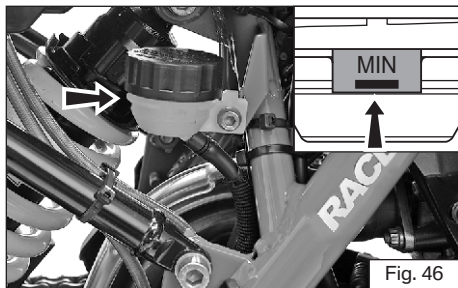

Fig. 46
- ◆ Inspect the oil level of both front and rear brake fluid reservoirs (ref. Fig. 45 & Fig. 46).